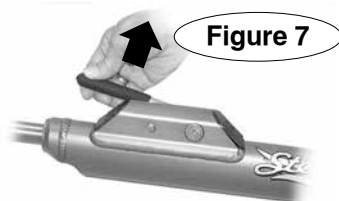

Figure 7
3. Lift the release handles on each tow bar arm (Figure 7) to release the locking mechanisms.